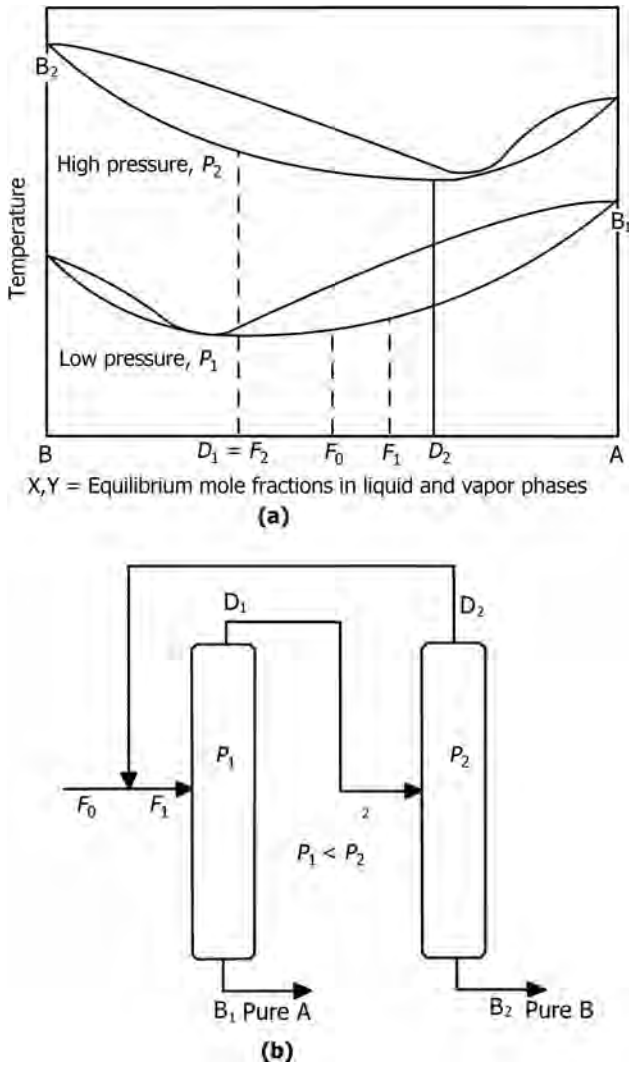

FIGURE 17.31 Pressure swing distillation for a minimum boiling binary azeotrope that is sensitive to changes to pressure.
- For some mixtures, a simple change in pressure can result in a significant change in the azeotrope composition and enable a complete separation by pressure-swing distillation as illustrated in Figure 17.31.